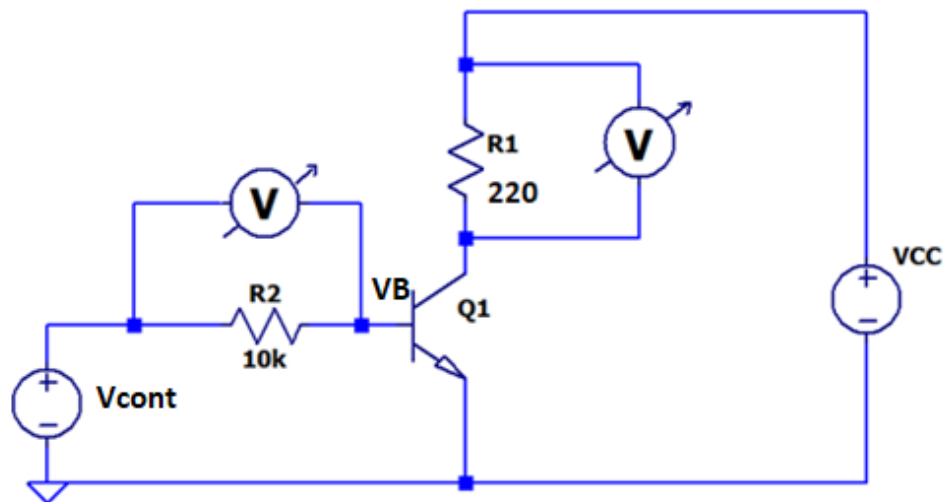
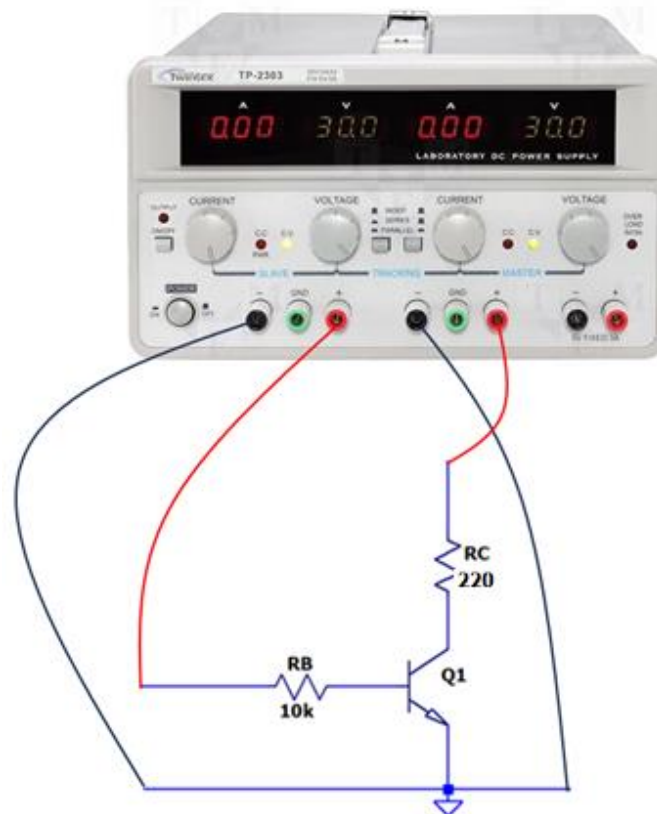
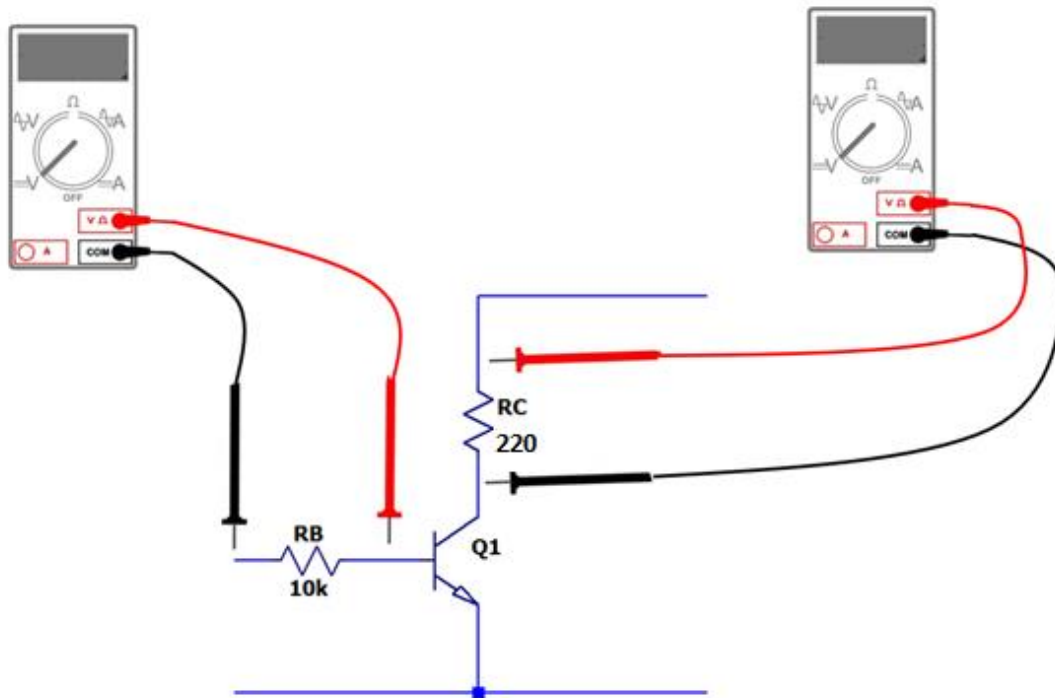

Fig.4. Circuit diagram
Fig.5. Connecting power supply
Fig.6. Connecting power supply
The circuit diagram of measurement is shown in Fig. 4. The visual connection of the power supply and the measuring instrument is shown in Fig. 5. and 6. As shown in Fig. 6, the left output of the power supply provides the collector (output) voltage and the right output provides the base voltage.
During the measurement exercise, the voltage of the base resistance (R_B) and the collector resistance (R_C) are measured by a digital multimeter (see Fig. 6.)
1. Build the circuit depicted in Fig. 5. using the NPN type BJT (Fig. 5. help!);